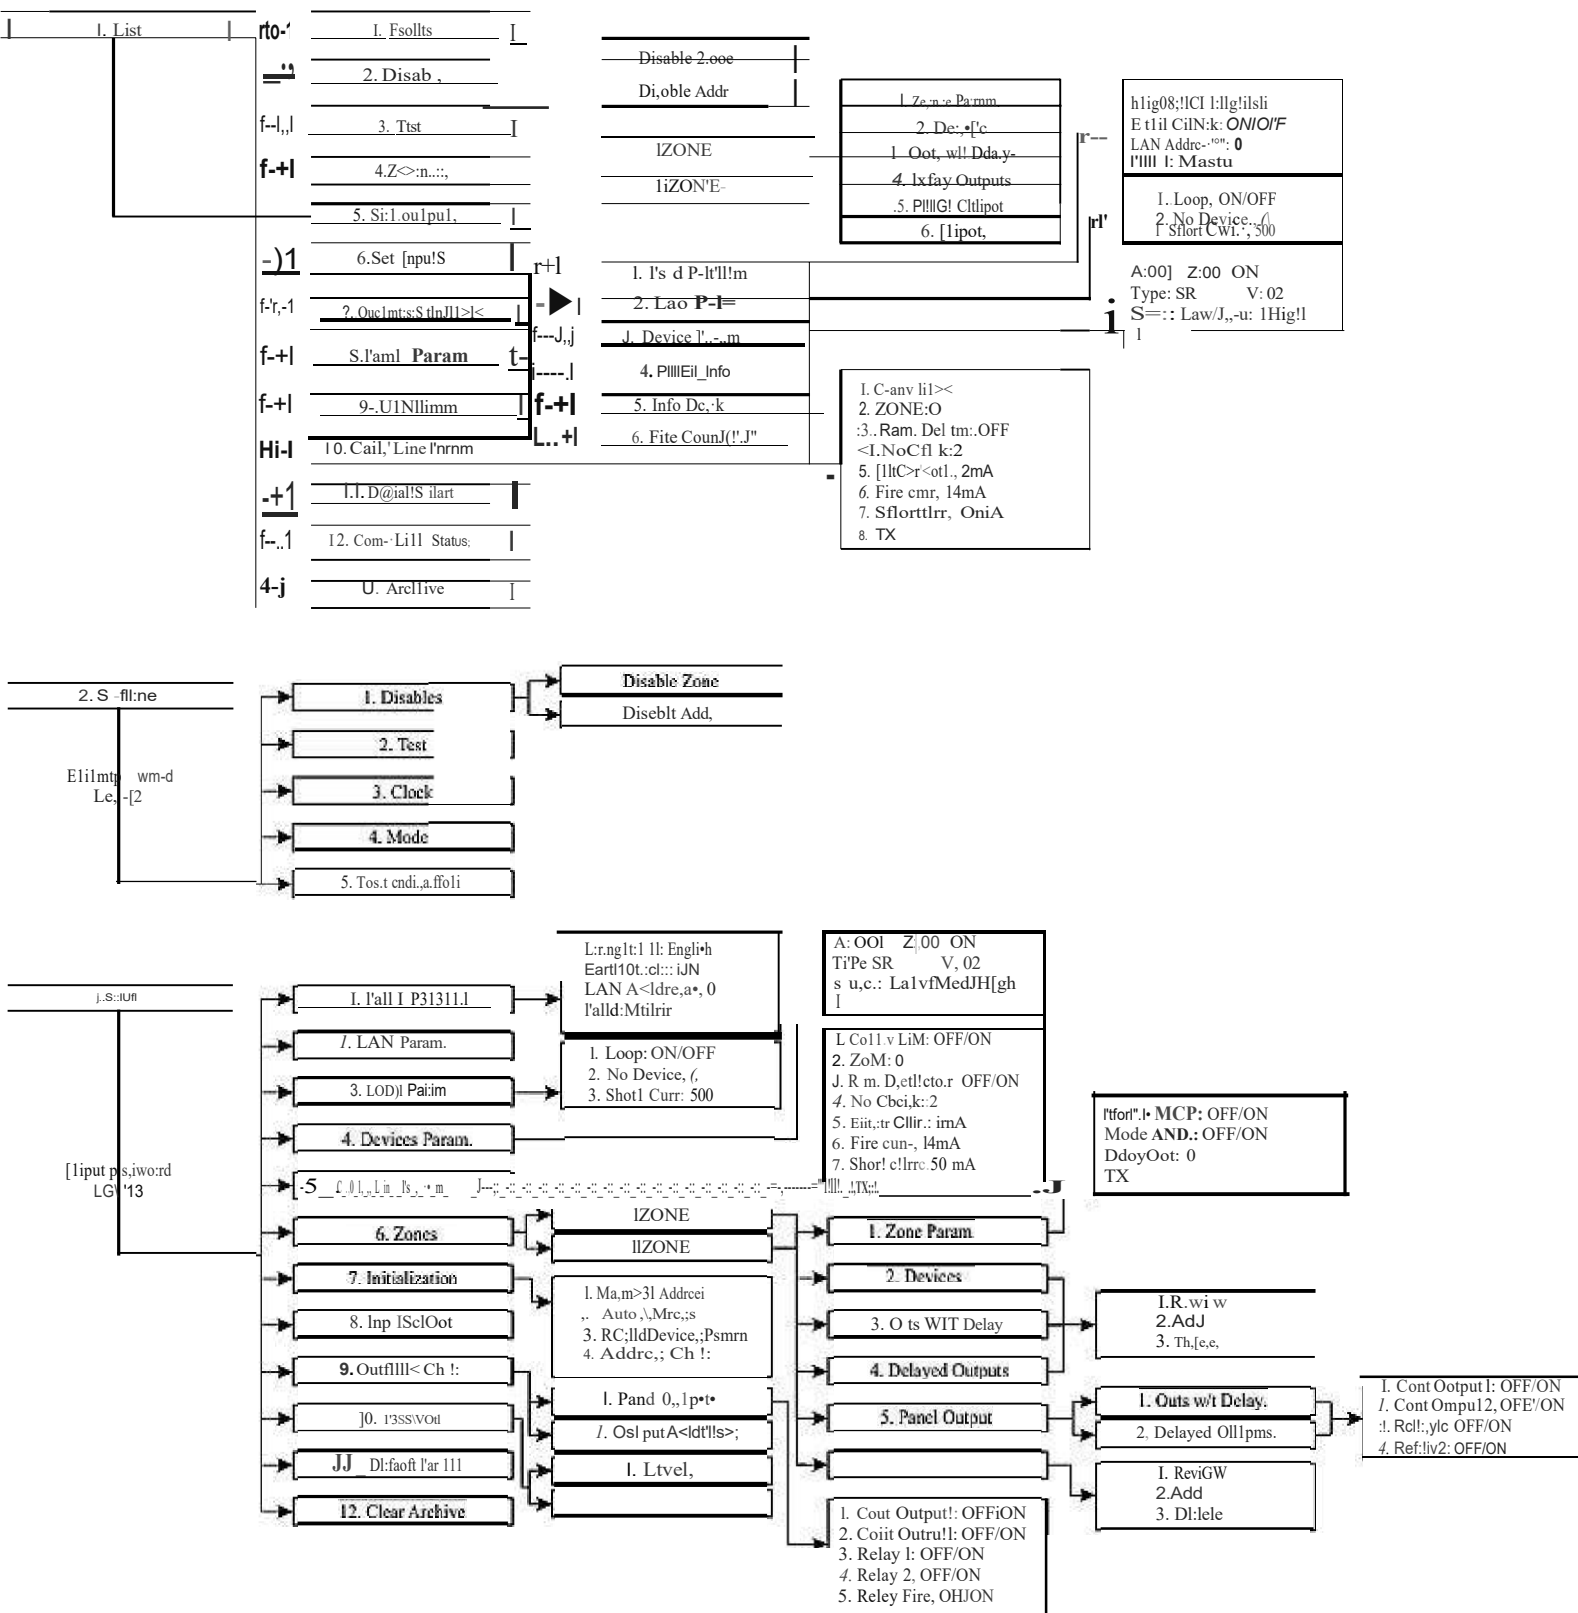

Fig. 12 General diagram of menus
It contains three main menus – Lists, Sys. Functions and Setup (Fig. 12) The “Up”  and
“Down”  buttons are used to cycle through all the program menus. The desired program menu is selected with the “OK” button. Exit the menu with the “Exit”  button. Navigate through all submenus the same way. (Fig. 12)
- 3.1.1. **Faults** (Fig.12 pos.1-1) – displays all faults registered by the panel
- 3.1.2. **Disables** (Fig.12 pos.1-2) – displays a list of disabled zones and/or addresses
- 3.1.3. **Test** (Fig.12 pos.1-3) – displays a list of zones that are currently in Test
- 3.1.4. **Zones** (Fig.12 pos.1-4) – displays a list of registered zones as well as information about a specified zone. (If no zones are set in the Zone menu, the message “No zones” will be displayed!).
- 3.1.5. **Set outputs** (Fig.12 pos.1-5) – displays a list with all active outputs of the panel
- 3.1.6. **Set inputs** (Fig.12 pos.1-6) - displays a list with all active inputs of the panel
- 3.1.7. **OutputsSetInputs** (Fig.12 pos.1-7) – the menu displays output information about Outputs that are triggered according to the state of a particular input/s
- 3.1.8. **Panel parameters** (Fig.12 pos.1-8) – the menu displays information about the Panel Parameters, Loopparameters, Devices Parameters, Panel information and Fire counter
- 3.1.9. **LAN parameters** (Fig.12 pos.1-9) – Displays the network parameters
- 3.1.10. **Conv line parameters** (Fig.12 pos.1-10) – displays information about the conventional line settings
- 3.1.11. **Devices status** (Fig.12 pos.1-11) – displays the status of the devices; allows making inspections rounds and reading devices’ parameters
- 3.1.12. **Conv line status** (Fig.12 pos.1-12) – displays the conventional line status ON/OFF
- 3.1.13. **Archive** (Fig.12 pos.1-13) – provides access to the archive of events
- 3.2.1. **Disables** (Fig.12 pos.2-1) – provides options for disabling zones and addresses, Disabled zones and addresses cannot cause a fire alarm, regardless of their status.
- 3.2.2. **Test Zones** (Fig.12 pos.2-2) – provides options to test each of the zones – Enable and Disable. The purpose is to test the serviceability of the devices connected to a zone.
- 3.2.3. **Clock** (Fig.12 pos.2-3) – to setup the astronomical time of the fire alarm panel
- 3.2.4. **Mode** (Fig.12 pos.2-4) – the fire alarm panel provides operation in two modes – DAY MODE and NIGHT MODE. In the current version this option is not active!!!
3.2.5. **Test indication** (Fig.12 pos.2-5) – triggers a test mode allowing to perform functionality check of panel's light and sound indication. All LEDs, display elements and buzzers will be switched on simultaneously! The test indication is exited with the "Exit" button .
3.3.1. **Panel Parameters** (Fig.12 pos.3-1) – the menu provides access to options for changing Panel Language, Ground Check, Panel Network (LAN address) and Panel's priority level of communication (Master or slave).
3.3.2. **LAN param** (Fig.12 pos.3-2) – settings for communication between panels
3.3.3. **Loop param** (Fig.12 pos.3-3) – loop parameters are set through the menu:
3.3.4. **Devices param** (Fig.12 pos.3-4) – the menu provides access to the parameters of each connected device
3.3.5. **Conv Line Param** (Fig.12 pos.3-5) – Conventional line parameters
3.3.6. **Zones** (Fig.12 pos. 3-6) – allows assigning a name to a zone, adding devices to a zone. More details and options are given in section 5.
3.3.7. **Initialization** (Fig.12 pos. 3-7) – addresses are assigned to the devices from this menu